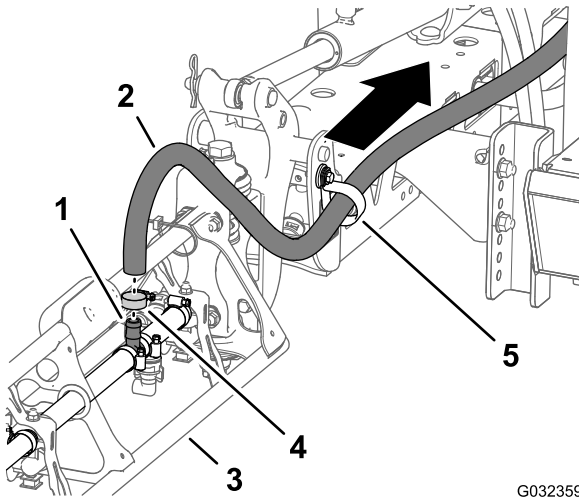

Figure 42
1. At the outer-boom section, remove the hose clamp that secures the supply hose for the boom section to the barbed T-fitting (Figure 42).
2. Remove the hose from the T-fitting (Figure 42).
3. Remove the free end of the hose from the R-clamp (Figure 42).